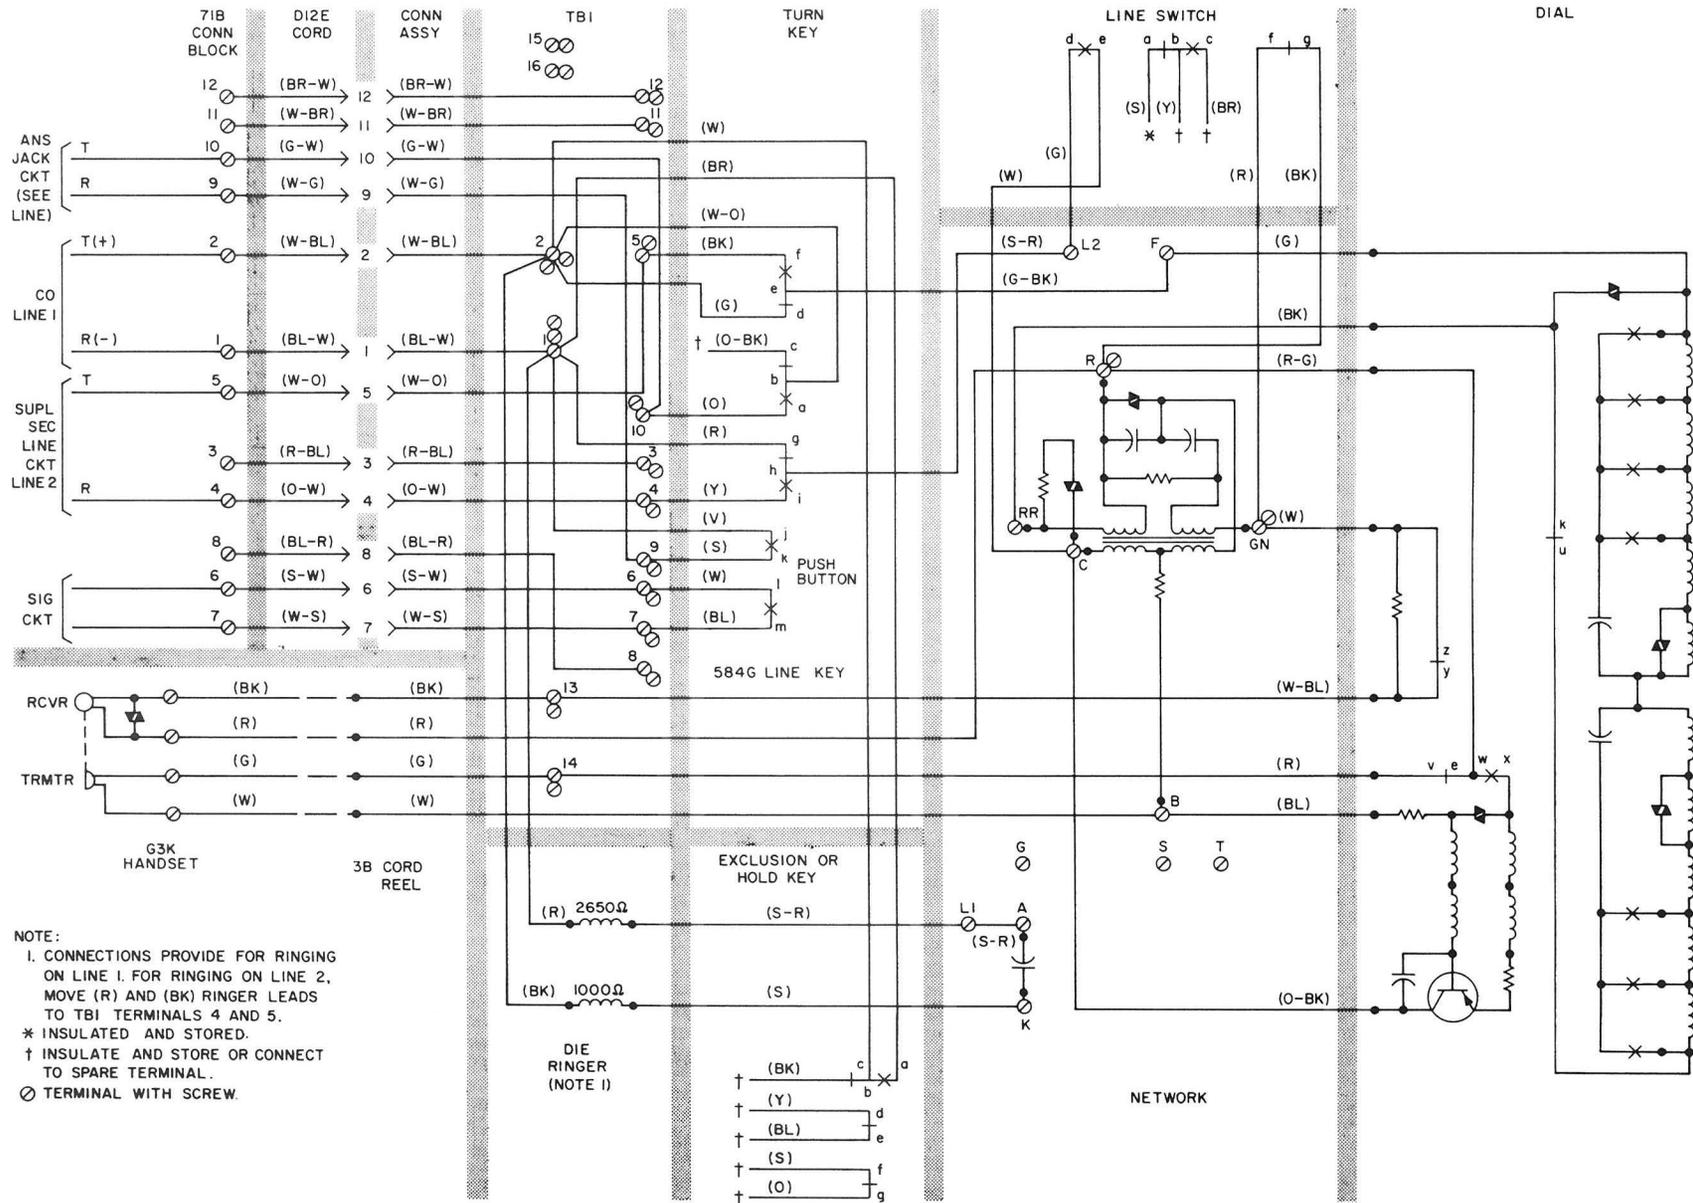

Fig. 5—2751C-58 (MD) or 2751D-60 (MD) Telephone Set Connections, Wired For Secretarial Service, Signaling, and Hold (Nonkey System)
5.02 Refer to Table D or E and Fig. 5 and 6 or 8 and 9 for conversion connection information.